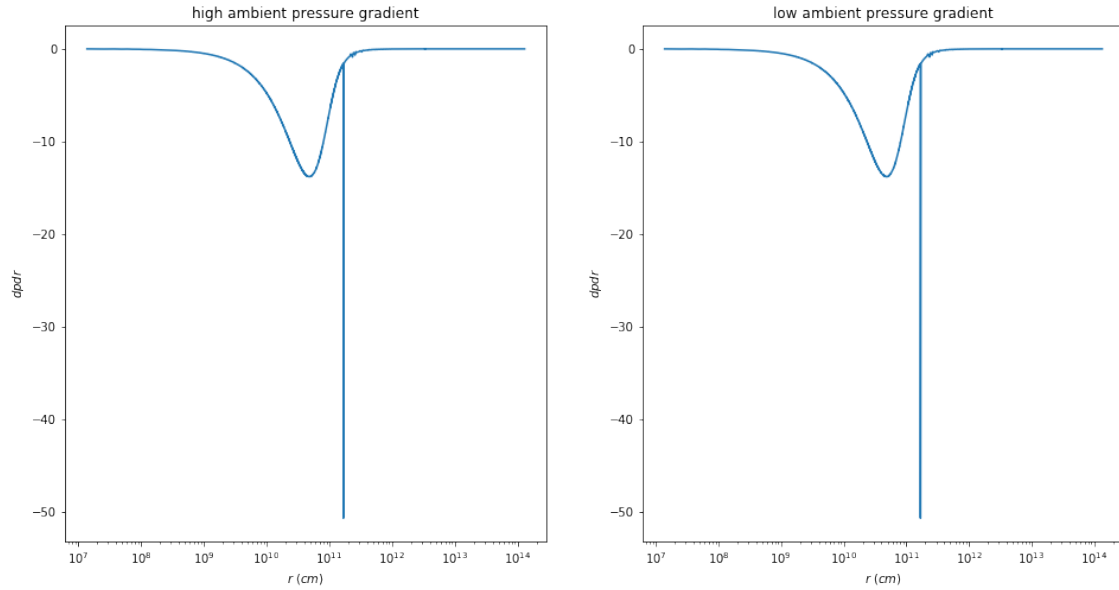

Figure 3: Pressure gradient of the RG profile
- Refinement radius (compare to the orbit). See CE paper 1 fig. 3, and paper 2 appendix fig. C1.